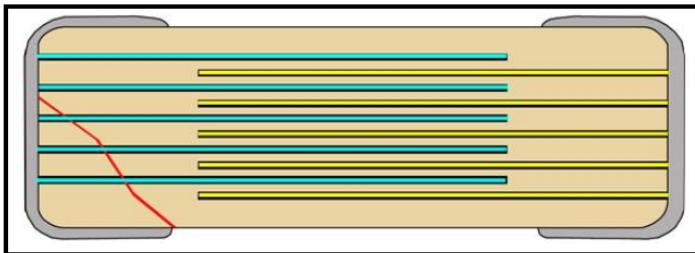

Figure 8 – Blue represents (-), Yellow represents (+), flex crack only crosses electrode of like polarity.
- For mid capacitance values, KEMET offers the Open Mode solution. The Open Mode device creates a safe zone on both ends of the capacitor (See Figure 8), so that only the innermost portion of the capacitor is active area. Any board flex crack that occurs (remember, this crack always starts within the end termination) can only cross electrodes of like polarity; thus eliminating the possibility of a short-circuit failure from a board flex crack. As with the FE-CAP, active area has been sacrificed in order to create the safe zones on both ends of the chip; thus, the Open Mode solution is only applicable for mid capacitance values. To order this device, place an "F" for "Fail Open" in the 6th digit of the KEMET part number. Open Mode can be ordered with Flexible Termination by changing the 6th digit of the KEMET Part Number to a "J".